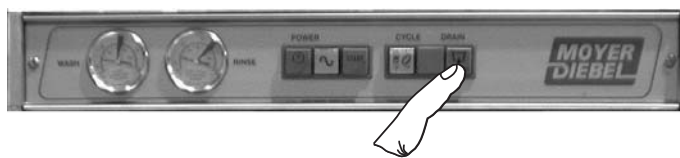

Figure 3- Drain Switch Position
2. Remove the overflow the press and hold the **DRAIN** switch to drain the machine. (See Fig. 3)
2. Press and hold the **DRAIN** switch (see Fig. 3) to activate the drain pump and drain all the water from the machine.